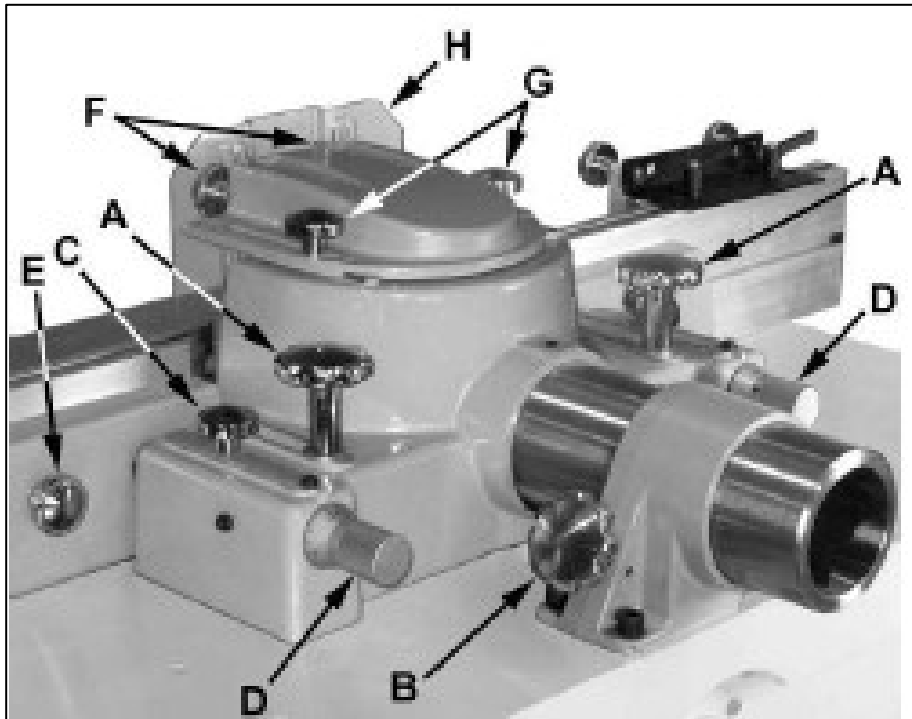

Figure 1 – Fence Assembly
Fence Adjustment. In many shaper operations, the workpiece is guided past the cutter by using the fence. The fence has two halves, and infeed half and an outfeed half. The infeed fence controls the depth of cut (just like a jointer) and the outfeed fence supports the workpiece as it leaves the cutter (just like a jointer). The fence assembly is secured to the shaper table by two Fence Assemble Lock Knobs (A) (refer to Figure 1). During operation, these knobs must be tight; however, to make gross adjustments to the fence they must be loosened. To move the fence assembly forward or backward, rotate Fence Adjustment Knob (B). This will move both halves of the fence. Then re-tighten knob (A).